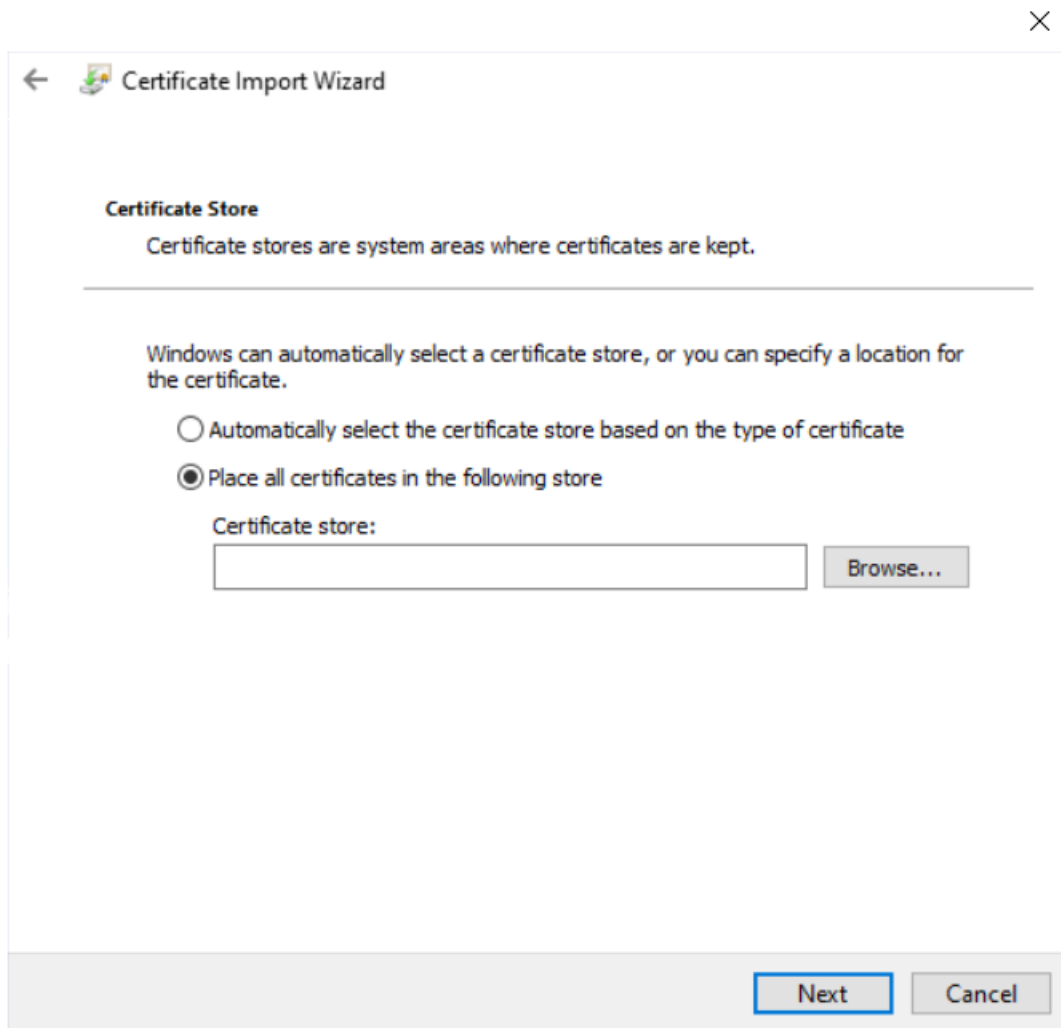

Figure 9-35: Certificate Import Wizard - Certificate Store page with selection
24. Select the **Place all certificates in the following store** option. (Figure 9-35)